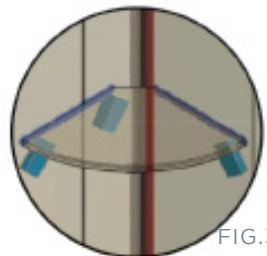

FIG.33
- Carefully place shelf on stabiliser blocks and gently push into corner. Check the level and add additional blocks to top of shelf to hold in place while adhesive cures. (FIG 33).